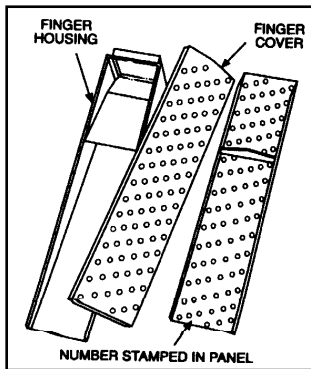

Figure 3
9. Assemble fingers as shown in figures 3 and 4.